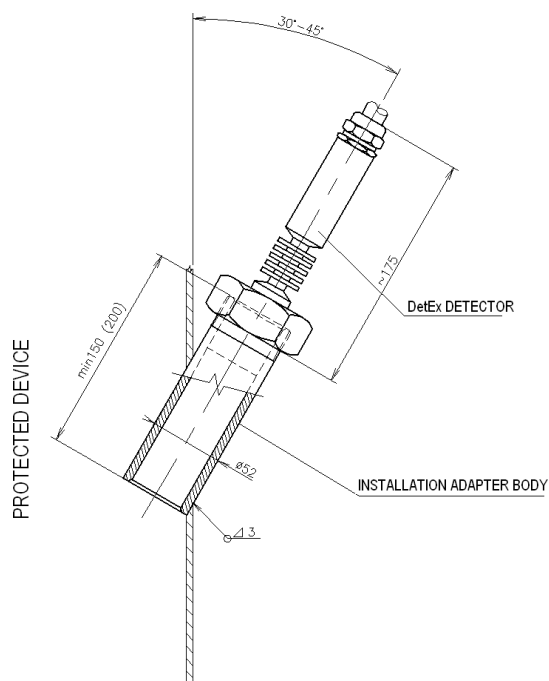

Fig. 2a)
- a vertical wall under the angle of 30-45° according to Figure 2a)